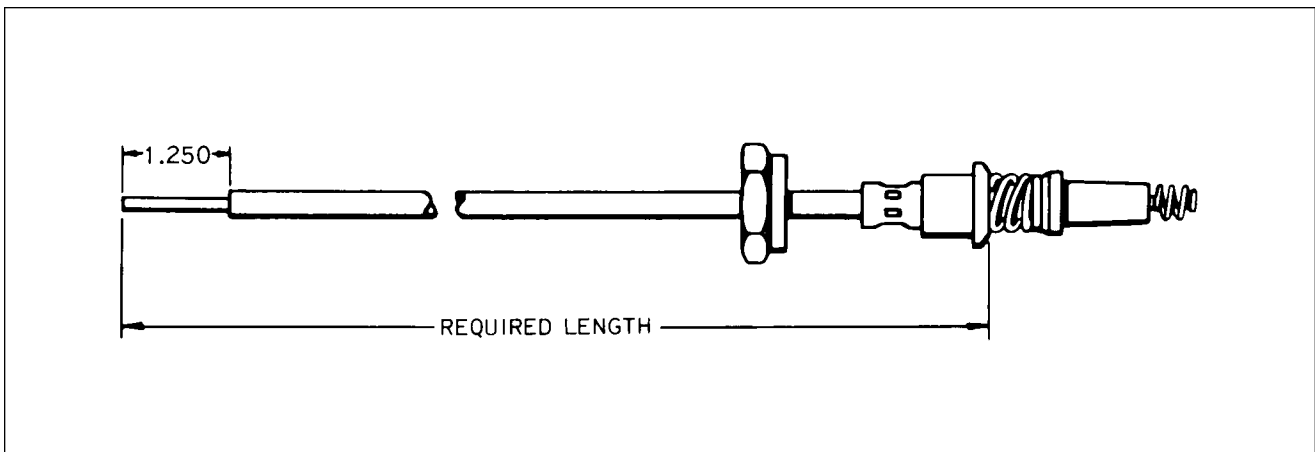

Figure 74-14. Measuring Lead Assembly Length
- (1) Measure the length of the condemned lead assembly. Move the coupling nut back on the lead assembly and measure from the outer end of the ferrule at the spark plug end. (Refer to Figure 74-14.)